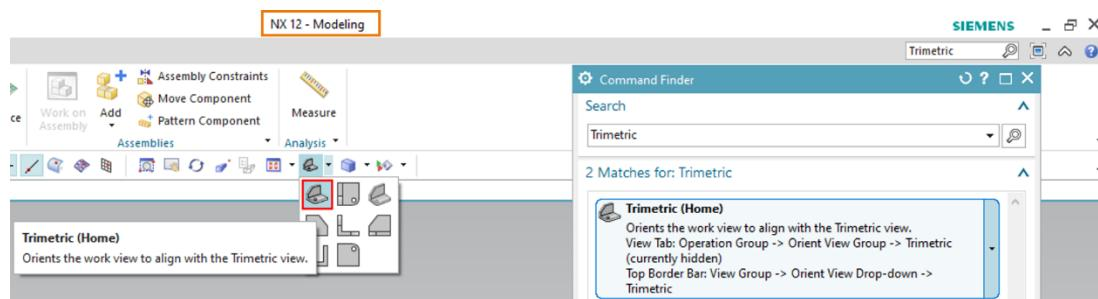

Figure 8: Selecting the "Trimetric" view in NX
3. You are now in the "**Modeling**" application of NX, as you can see from the program heading (see Figure 8, highlighted in orange). Before you begin the modeling, make sure that you are in the trimetric view. The view orientation specifies the perspective from which objects are represented in NX (for example, from above, from the side, trimetric, etc.) The best way to change the view is to use the Command Finder, as described at the beginning of the chapter. Select the "**Trimetric**" view in this way, (see Figure 8).